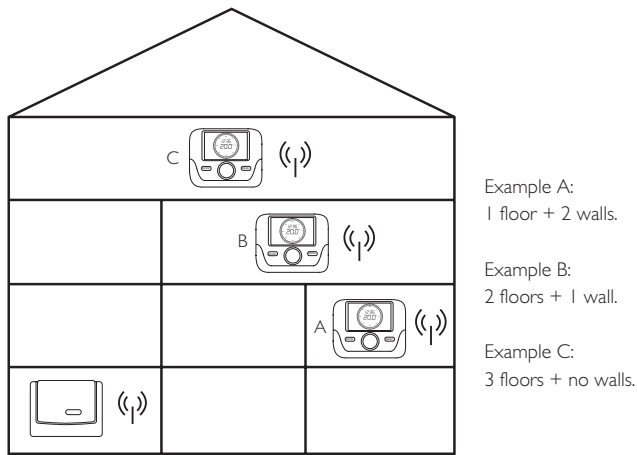

Fig. 13 Maximum permitted separation
4. Error 85 is due to the Programmer & Room Sensor not communicating with the Receiver. The Programmer & Room Sensor is either out of range or has not synchronized correctly. Check the unit's location (Fig 13) or proceed to the Manual Sync process in Section 6.0
- The Programmer and Room Sensor and the Receiver are within range of each other. See Fig. 13 and Section 5.2
6. The maximum distance between the Receiver and the Programmer & Room Sensor will depend on the layout of the house. For a typical house, a guideline of 3 floors or walls can be used, as shown in Fig 13.